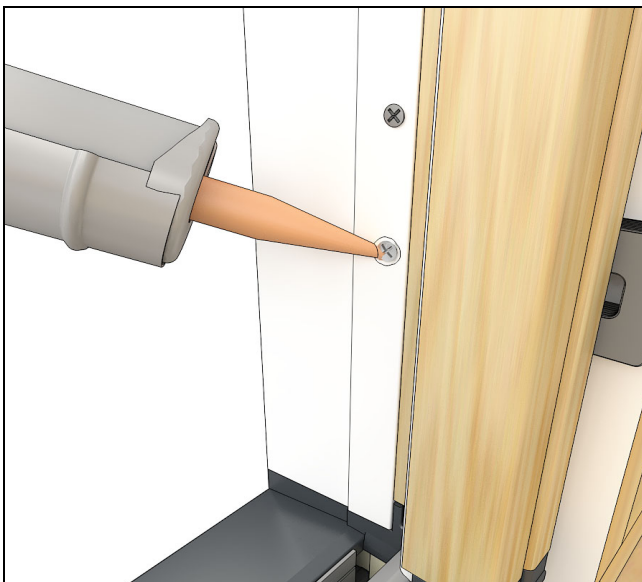

Figure 15
6. Ensure heads of all jamb screws are flush with jamb. Apply a dab of silicone to the heads of each jamb install screw including upper and lower factory installed screws used for shipping. See Figure 15.